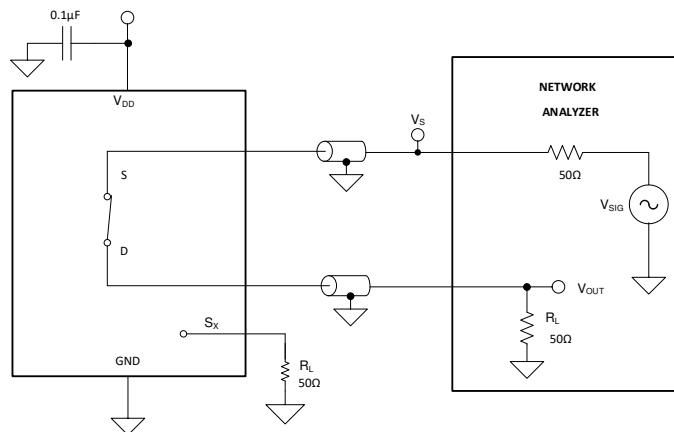

**Figure 7-9. Channel-to-Channel Crosstalk Measurement Setup**
Crosstalk is defined as the ratio of the signal at the drain pin (D) of a different channel, when a signal is applied at the source pin (Sx) of an on-channel. Figure 7-9 shows the setup used to measure, and the equation used to compute crosstalk.